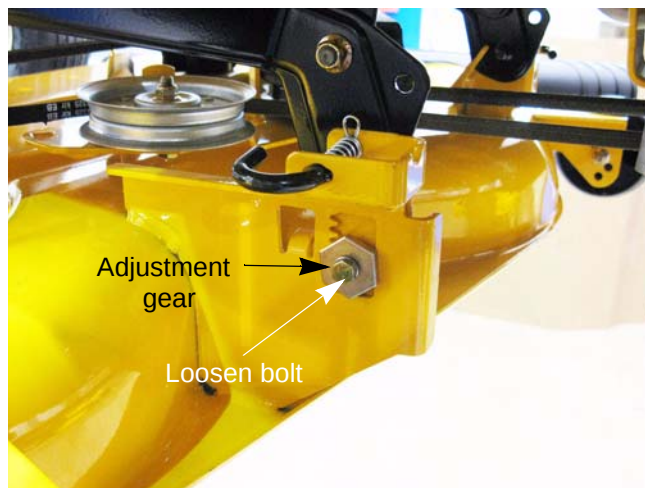

Figure 7.25
3. Loosen, but do NOT remove, the hex bolt on the front left deck hanger link. See Figure 7.25.
4. To level the deck turn the adjustment gear, located immediately behind the bolt. Turn the gear clockwise (rearward) to raise the left side of the deck. Turn the gear counter-clockwise (toward front) to lower the left side of the deck. See Figure 7.25.